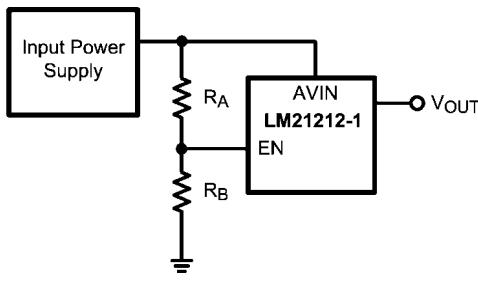

FIGURE 6. Enable Startup Through V_{IN}
The LM21212-1 has a built-in under-voltage lockout protection circuit that keeps the device from switching until the input voltage reaches 2.7V (typical). The UVLO threshold has 200 mV of hysteresis that keeps the device from responding to power-on glitches during start up. If desired the turn-on point of the supply can be changed by using the precision enable pin and a resistor divider network connected to VIN as shown in *Figure 6* in the design guide.
The enable (EN) pin of the LM21212-1 allows the output to be toggled on and off. This pin is a precision analog input. When the voltage exceeds 1.35V, the controller will try to regulate the output voltage as long as the input voltage has exceeded the UVLO voltage of 2.70V. There is an internal current source connected to EN so if enable is not used, the device will turn on automatically. If EN is not toggled directly the device can be preprogrammed to turn on at a certain input voltage higher than the UVLO voltage. This can be done with an external resistor divider from AVIN to EN and EN to AGND as shown below in *Figure 6*.